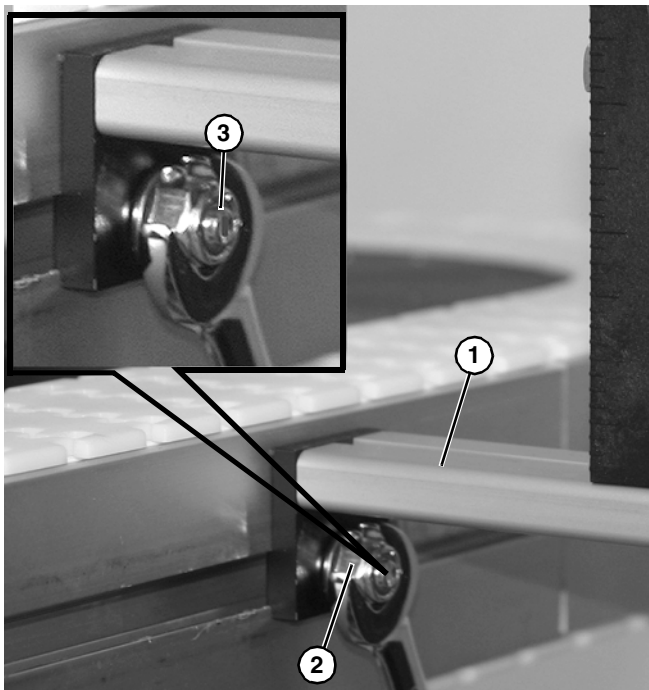

Figure 32
2. Tighten stud on guiding assembly (Figure 32, item 1) to conveyor with nut (Figure 32, item 2) on stud.
*Be certain that slot (Figure 32, item 3) is close to vertical when finished tightening nut.*
3. Tighten nuts (Figure 32, item 2).